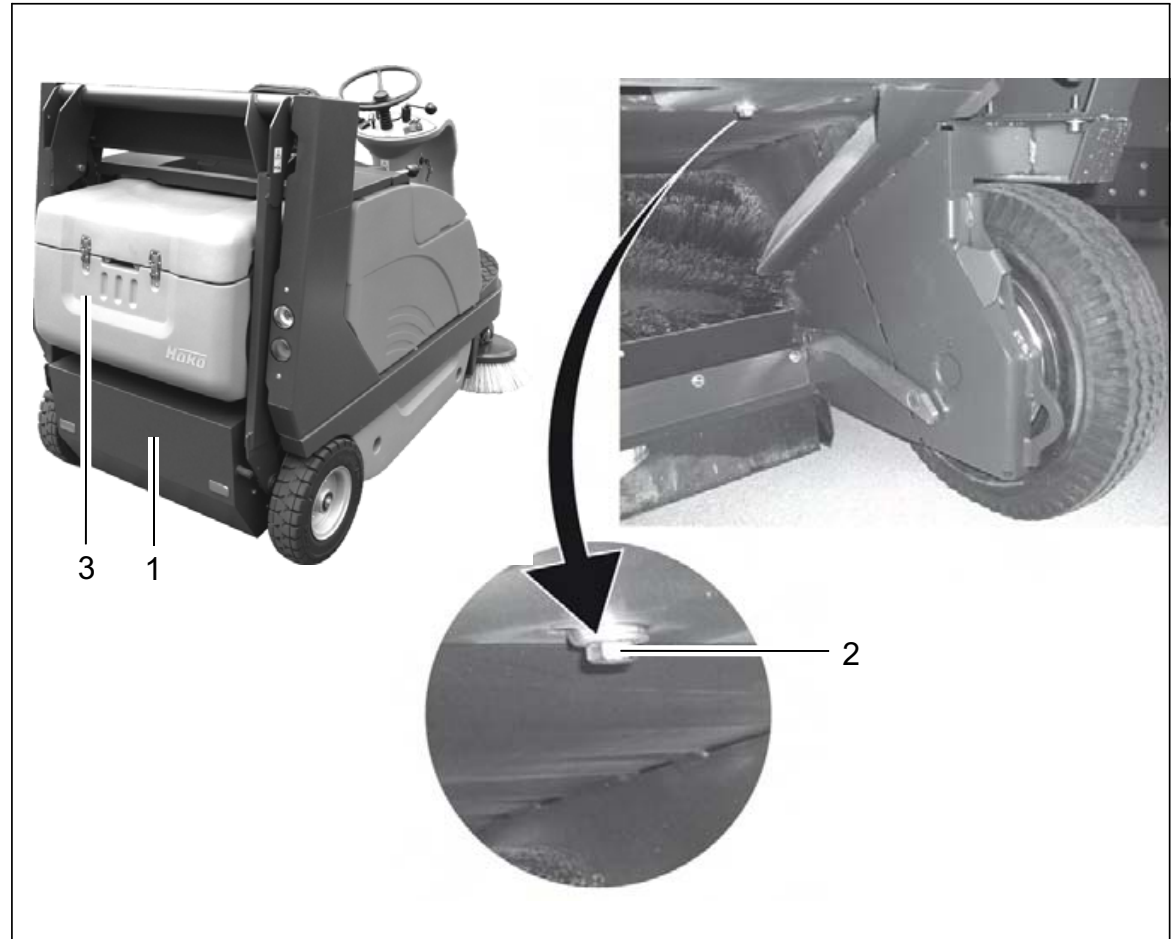

Fig.22
- Move up the dirt hopper (Fig. 22/1).
- Place recipient under the drain plug (Fig. 22/2), drain plug is located underneath the hydraulic case (Fig. 22/3), and remove drain plug (Fig. 22/2).